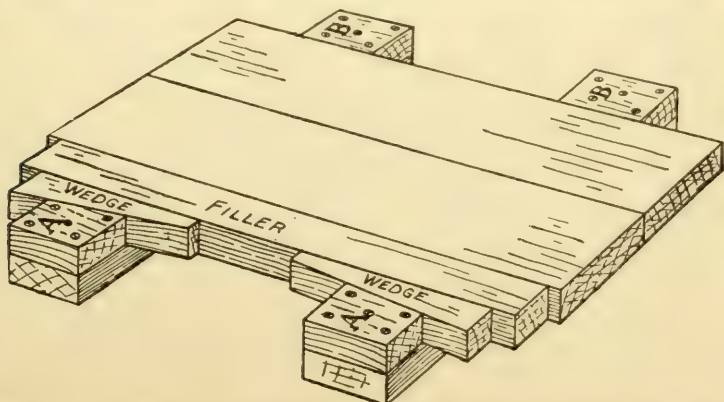

FIG. 42. — Home-made Clamps for Holding Glued-up Work.
**Home-made Clamps** of different lengths similar to those shown in Fig. 42. These consist of two strips with two blocks of wood *A* and *B* screwed to them 4 or 5